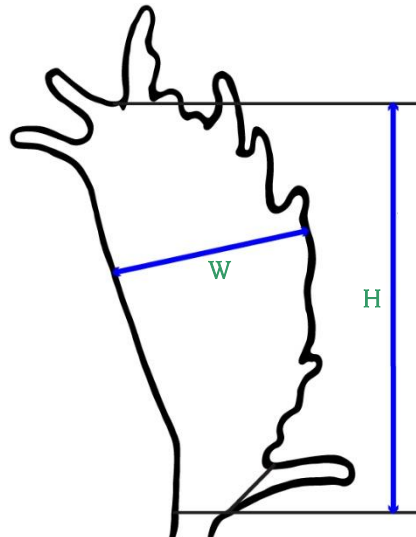

Figure 4
3. Height. Measure the height of each palm on the outside of the antler from the point where the palm broadens to the furthest indentation between the tines on the top of the palm. (Figure 1, H) The lower point of this measurement should be taken where the first tine on the back of the palm starts. Note in Figure 4 where the tine has been marked off by a line. To do this, lay the tape along the palm as though the tine does not exist. Draw a line along the edge of the tape with a pencil. Draw along the edge that is closest to the palm. The lowest point of this line is the start of the height measurement.